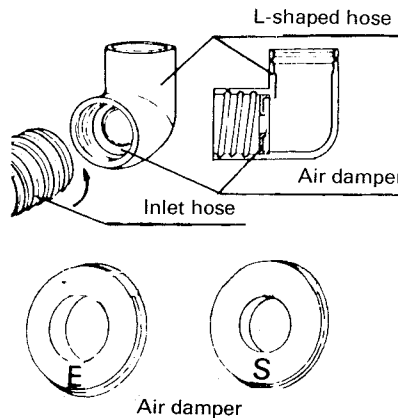

Fig. 13
7. Attach the type "S" air damper to the L-shaped hose (See Fig. 13).